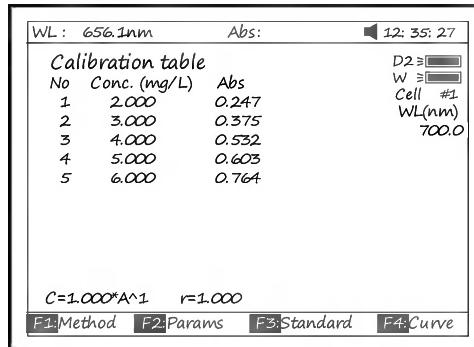

Fig 33
- 3.3.3 Pull the first sample cuvette of known concentration into the light path, Press the key **【START】** to get values of standard curve one by one (Fig 33).
In Fig 33 press **【Load】** and then press **【^】** or **【v】** to select the file with type *****.fit**. At last press **【ENTER】** TO confirm.